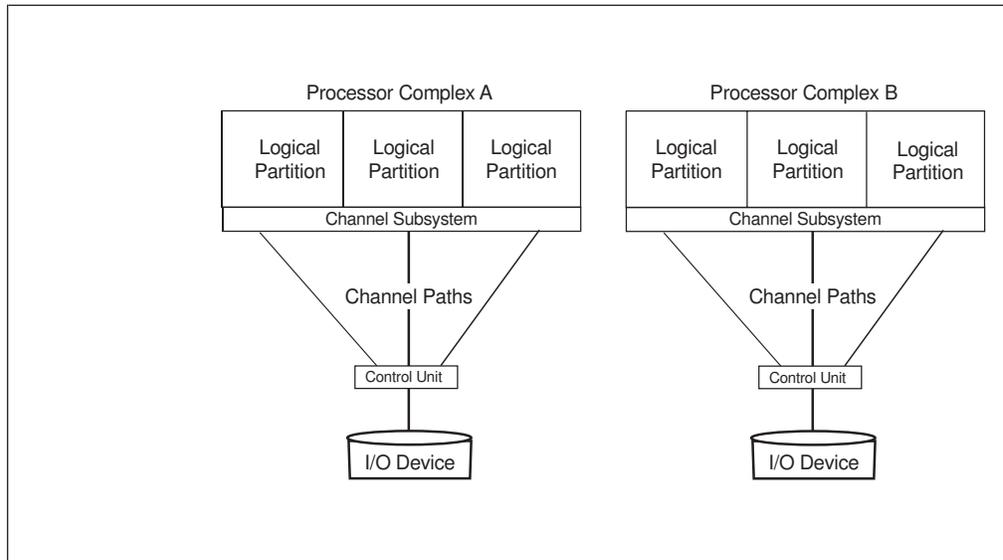

Figure 8. Shared Channel Paths
Figure 8 on page 30 compares three unshared channel paths to a single shared channel path. In processor complex A, three logical partitions can access an I/O device through three unshared channel paths. In processor complex B, which has MIF capability, three logical partitions can access an I/O device through a single shared channel path.
- Using shared ESCON and FICON channel paths does not reduce the number of logical paths needed at a control unit. A control unit requires a logical path for each logical partition that can access a shared channel path. For example, in Figure 8, the control units shown connected to processor complexes A and B both require three logical paths for the three logical partitions.